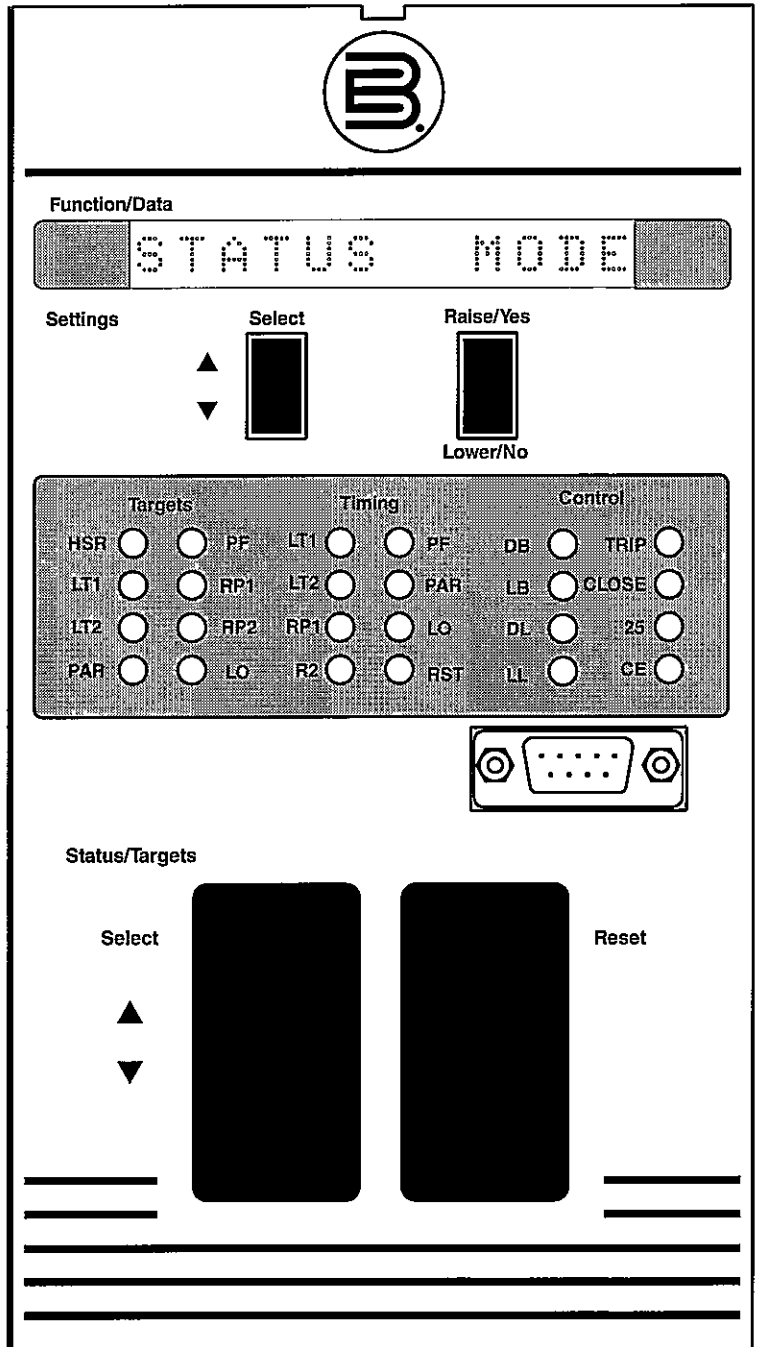

Figure 2 - Control Panel
- Menu driven controls and bright LED display (figure 2).